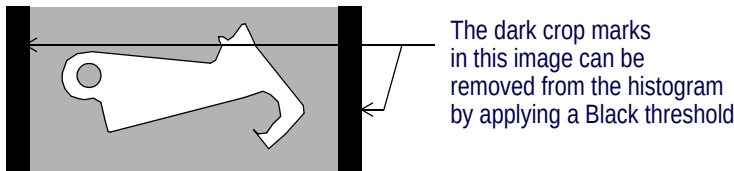

Figure 387 Applying a Threshold to Exclude Artifacts
- Another reason for using thresholds is to remove frame grabber artifacts, such as bars on the edges of an image as illustrated in Figure 387.